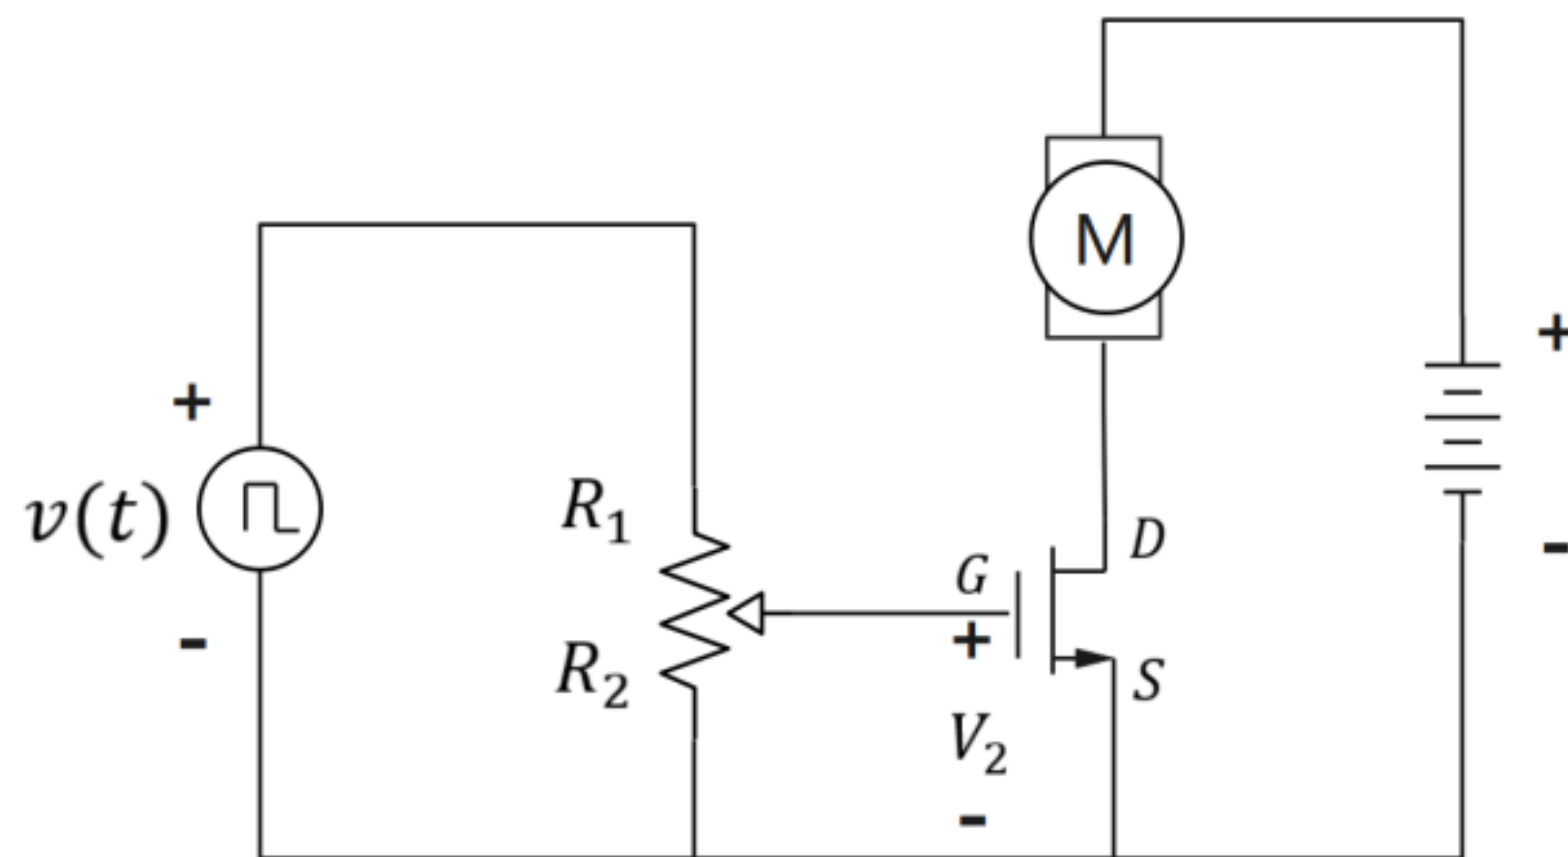

Figure 2: Slowing the motor speed in the motor-drive circuit
Use the function generator to slow the motor as shown in Figure 2 below. Use a square wave with **7V amplitude, 1kHz, and 3.5V offset**. Observe the voltage V_2 on the oscilloscope’s Channel 1. Note that you will need to make sure the battery is **only connected between the motor and the source (S) pin of the MOSFET**. It should **not** be connected to the positive terminal of the function generator.